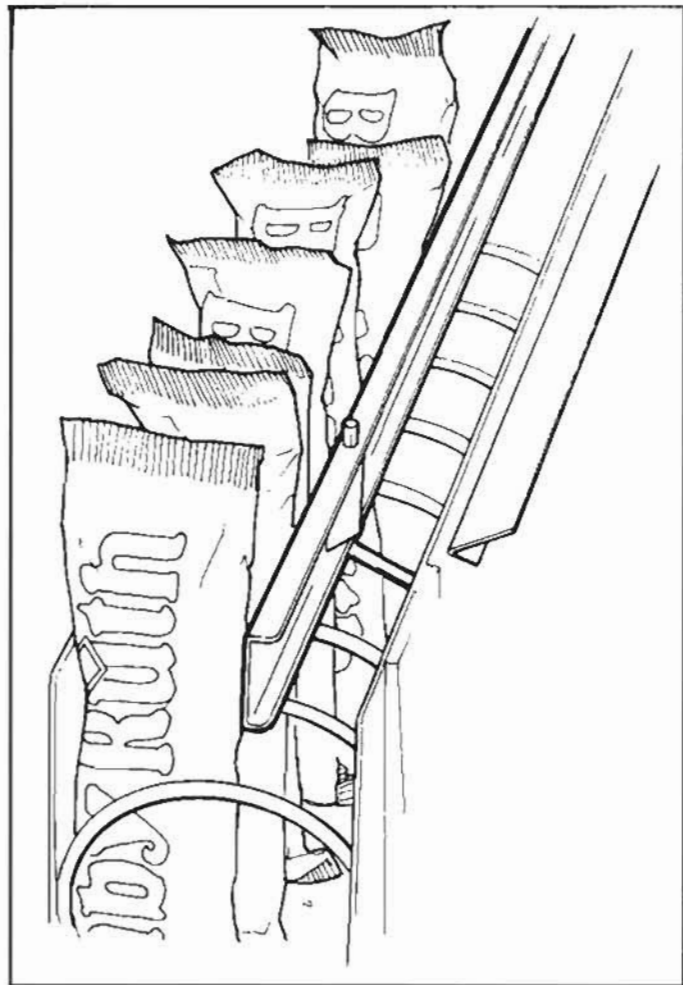

Figure 6. 10 SELECTION SHELF PRODUCT SPACER POSITIONED TO HOLD CANDY UPRIGHT.
8. **PRODUCT SPACERS—10 SELECTION SHELF:** The 10-selection shelves are equipped with a product spacer (see Figure 6) that can be pivoted from the right side of each product space. These spacers should be pivoted out to hold the product upright, but not tight against the product. Leave about $\frac{1}{8}$ " clearance between the spacer and the product.